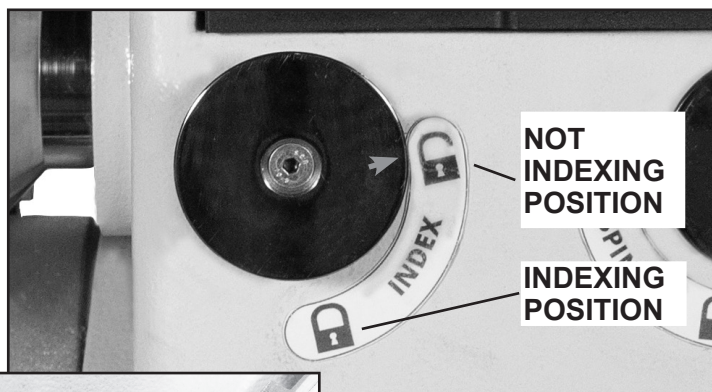

FIG. 34
Conveniently located on the front of the headstock, the Index Pin Assembly (FIG. 34 & 35) is used to hold and position the spindle for making accurate, spaced pattern work on projects such as straight fluting, grooving, drilling, detail carving, wood burning patterns and laying out designs and more.
- Rotate the Index Knob (FIG. 34) from the 'not-indexing' position (open lock icon) down to the 'indexing position' (closed lock icon). This will insert the Index Pin's shaft into one of the Spindle Pulley's holes, locking the spindle in place.